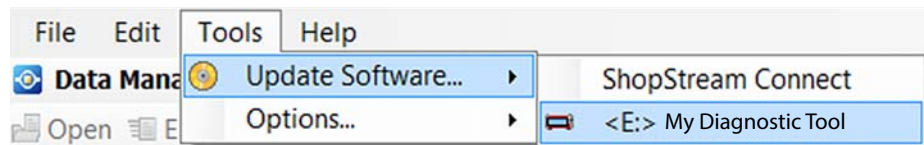

Figure 9-8
1. Select **Tools > Update Software > (diagnostic tool type - e.g. ETHOS Edge, MODIS Edge, SOLUS Edge, etc.)** from the Menu bar (Figure 9-8).